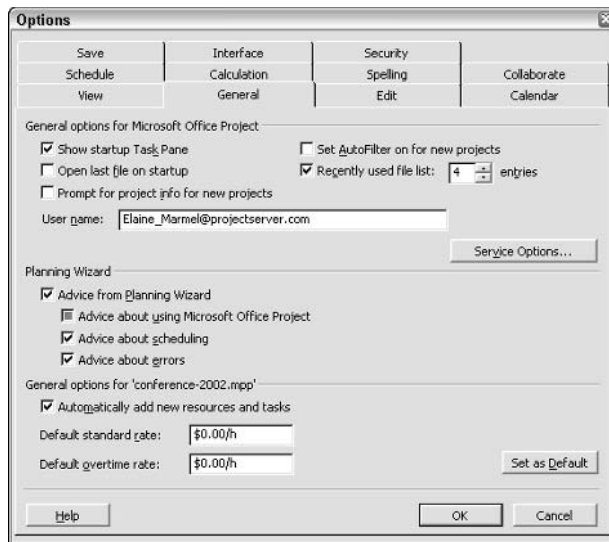

Figure 16-7: Fill in the e-mail address of the workgroup manager.
5. In the User name box, fill in the workgroup manager's e-mail address, as shown in Figure 16-7, so that workgroup members who receive e-mail from the manager can respond to that e-mail.